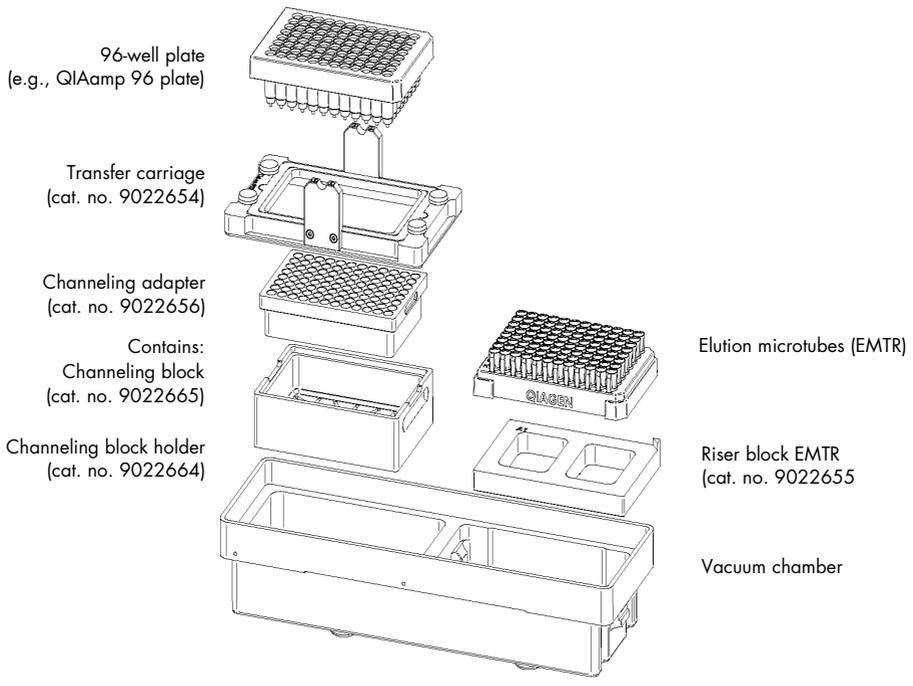

Figure 1. Assembling the vacuum chamber.
Figure 1 illustrates the assembly of the vacuum chamber. For further information, please refer to the *QIAcube HT User Manual*.
16. Prepare the vacuum chamber as shown in Figure 1 on page 20. This assembly is also described in the *QIAcube HT User Manual*.